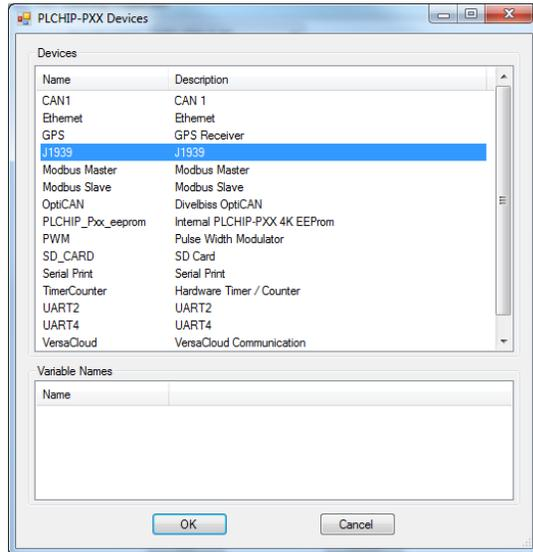

Figure 2-21 - PLCHIP-PXX Devices - J1939
4. Click / select **J1939** (highlight). Refer to Figure 2-21.